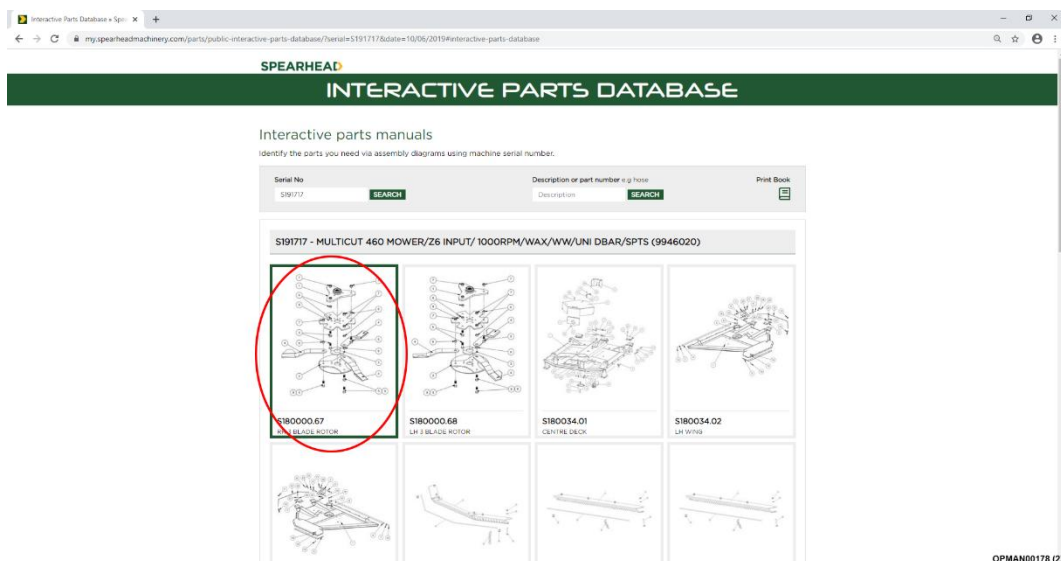

Figure 22 – Click On Assembly
7.1.1.3 After clicking on the serial number a full parts breakdown, specific to the machine serial number will appear showing the various parts and assemblies of the machine. Click on the specific assembly picture required; see Figure 22.